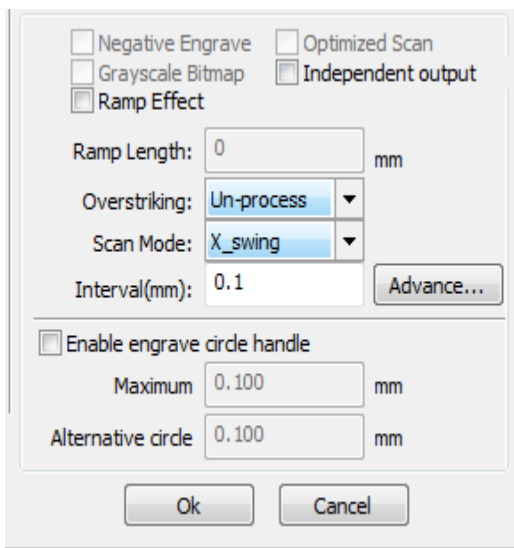

Figure 96 Vector Scan
Figure 96 illustrates the Layer Parameter pop-up as it appears when a vector object layer is selected and Processing Mode is set to Scan.
**Vector Scan:** does not support certain functions. In **Figure 96** the unsupported ones are grayed out.